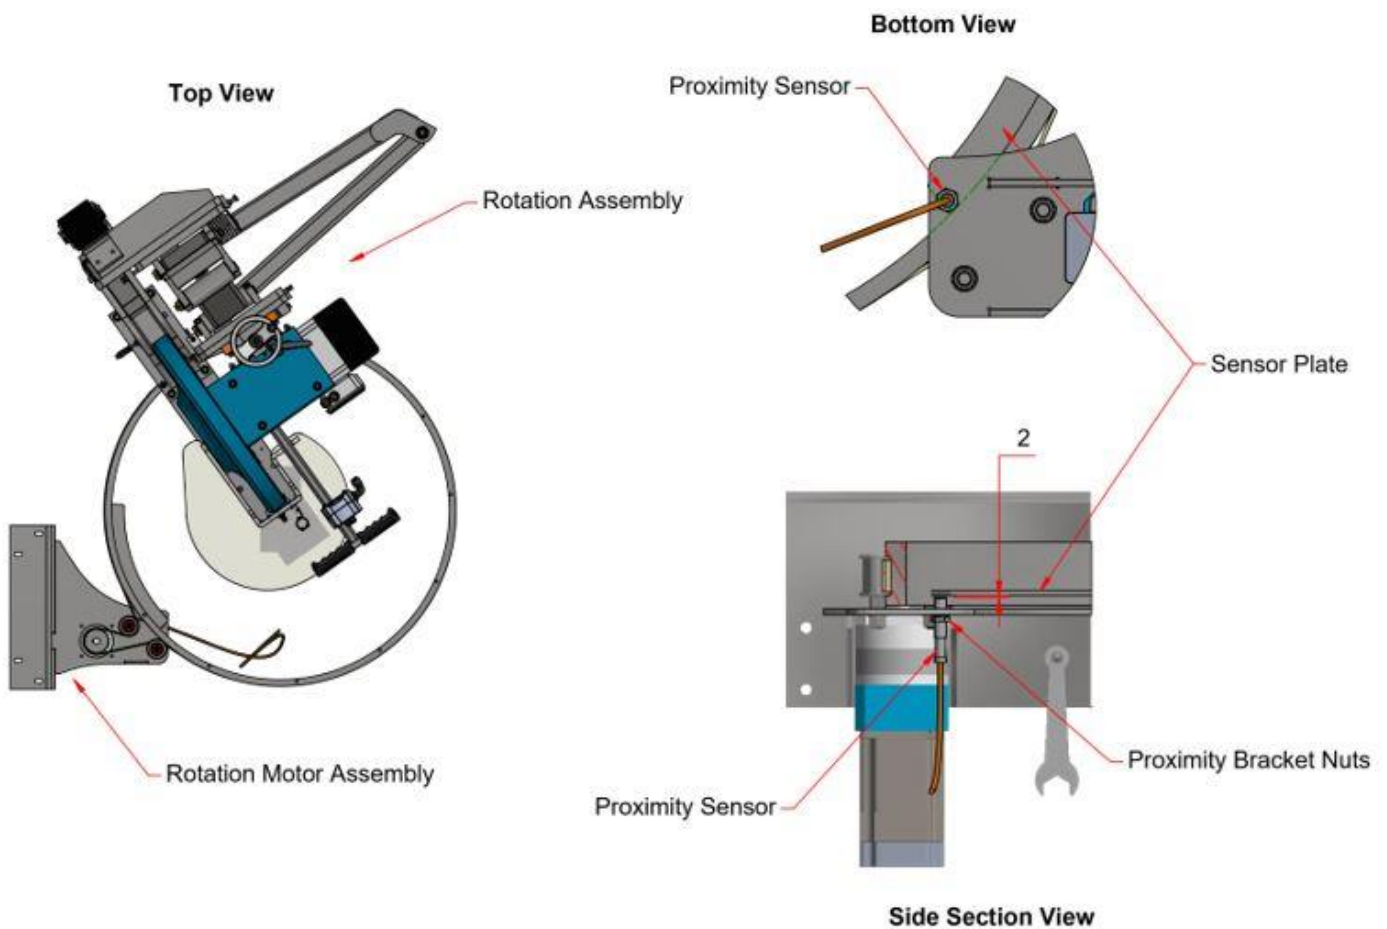

Figure 25, Rotation Ring proximity sensor configuration
- Push the Rotation assembly over until the sensor plate is above the proximity sensor on the rotation motor assembly. See Figure 25.
- Ensure that the edge of the sensor plate is directly above the proximity sensor, as shown in Figure 25; this should be within the home position. The home position for Left-hand saws is any angle above 100°, and the home position for Right-hand saws is any angle less than 80°.